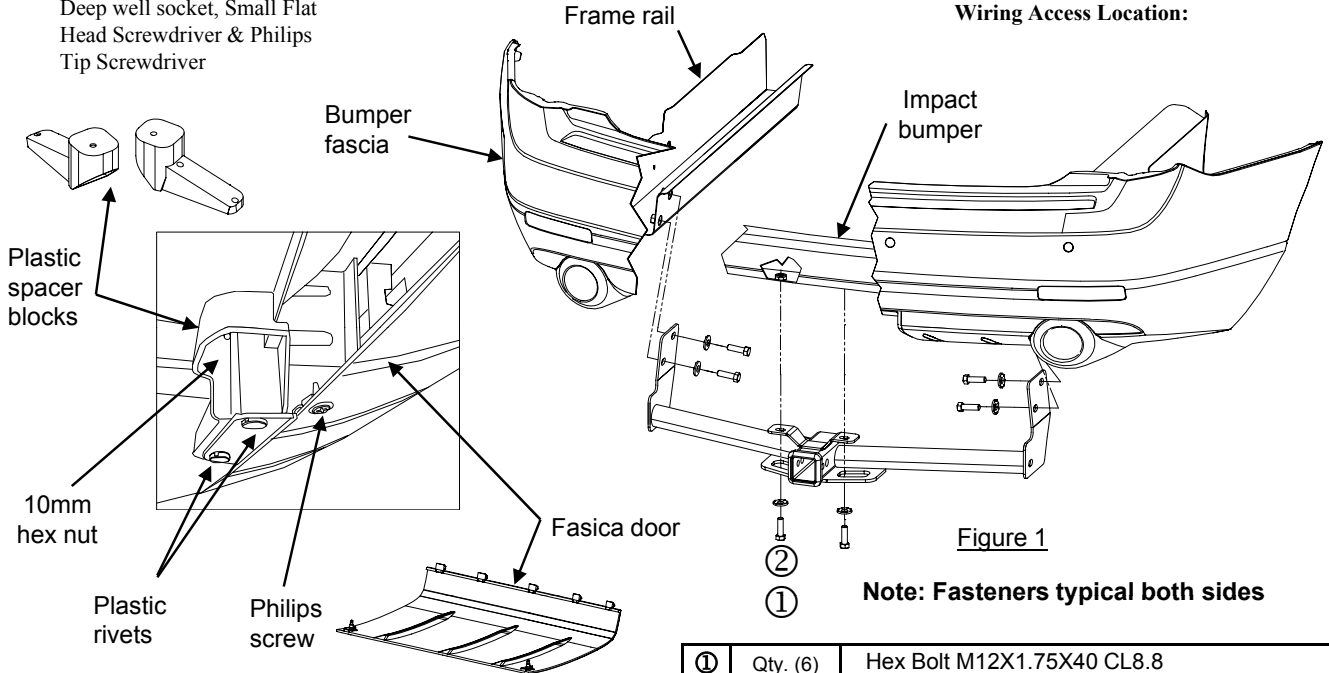

Figure 1
4. Raise the hitch into position, carefully, lifting the hitch over the fascia (where needed). Secure to impact bumper with M12 bolts and conical washers into the existing weld nuts, as shown Figure 1. Install remaining fasteners as shown.
6. Reinstall the plastic spacer blocks and (4) plastic fascia rivets removed in step 1 & 2.